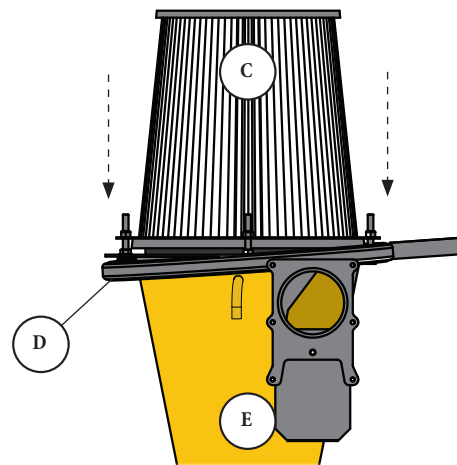

FIG. 18
Open and slide the Ring Clamp (D) over the assembly so that it rests outside the upper flange of the Cyclone (E) [FIG. 18].